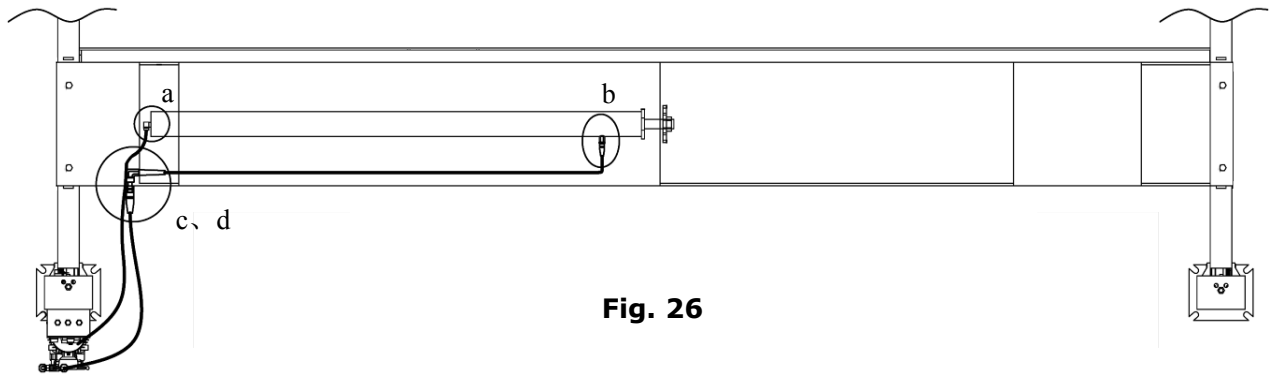

Fig. 26
2. For power unit attached to the column of cross beam **B (See Fig. 26).**